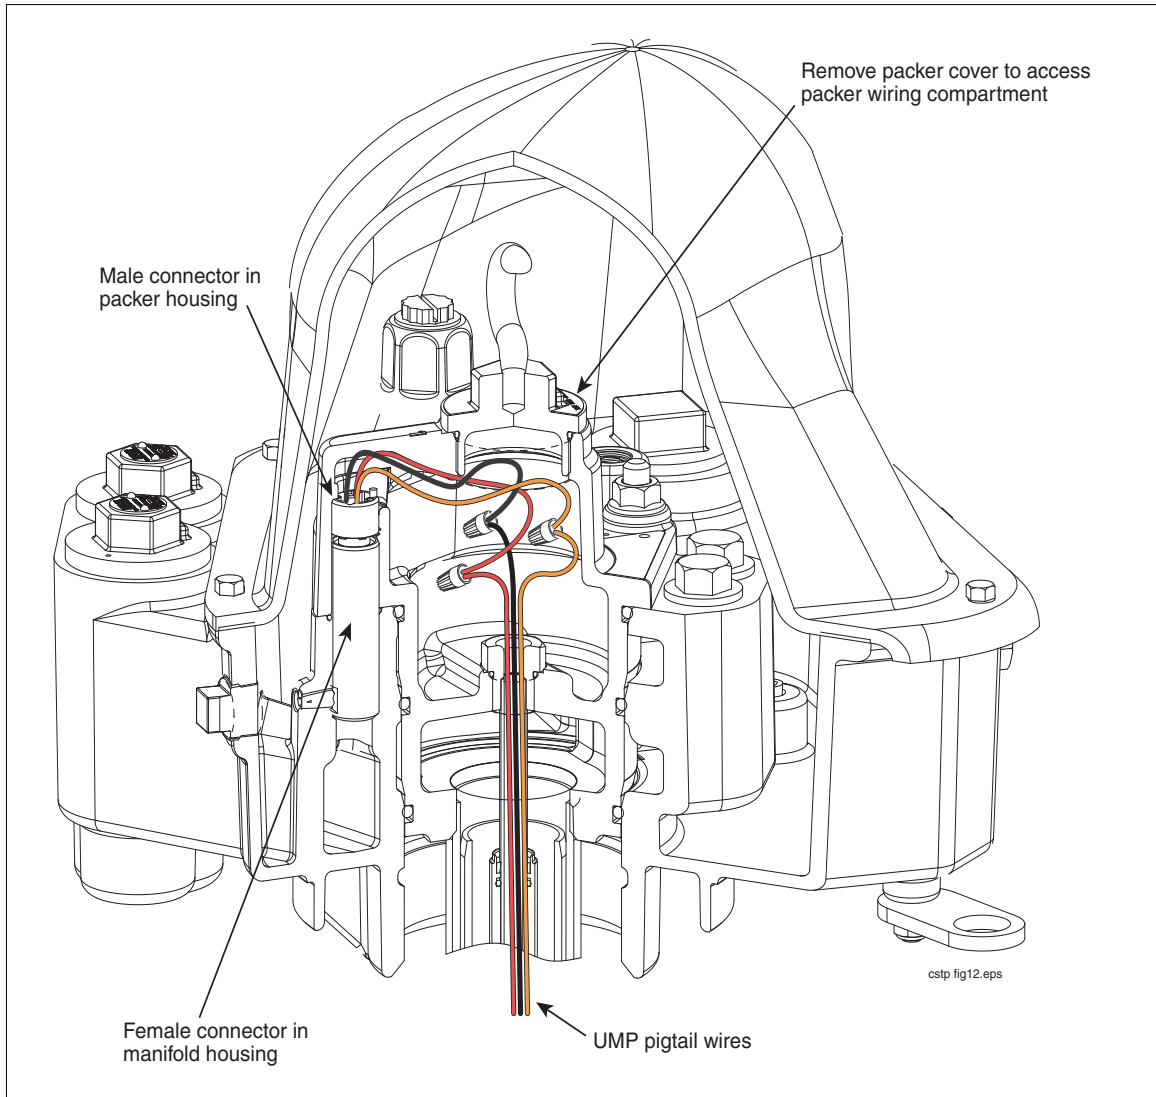

Figure 12. Connecting UMP To Packer Wiring
16. Connect like colored wires from the UMP to like colored wires from the male connector with wire nuts. When finished connecting the wires, neatly coil the wires inside the packer's wiring compartment (see Figure 12).